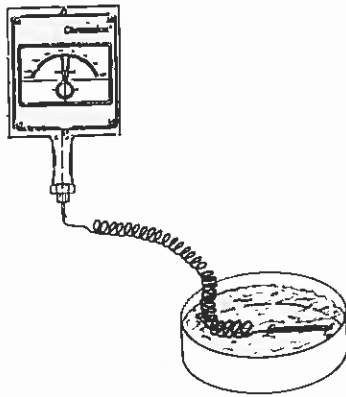

Figure 15
1. If accurate measurement standards are not available, the thermostat can be adjusted readily to a known temperature standard such as boiling water (212°F). (See Figure 15).